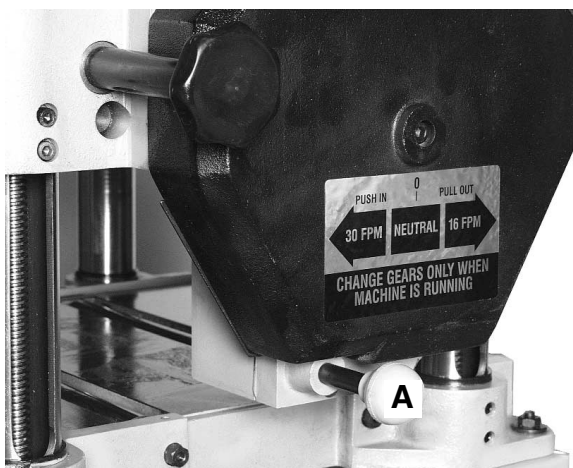

Fig. 8
When changing the setting of the feed roller speed Fig. 8 (A) it is essential to have the machine running. Pull the speed control lever all the way out for the slow speed, 16fpm. The middle position is neutral, and pushing the lever all the way will give a feed roller speed of 30fpm.